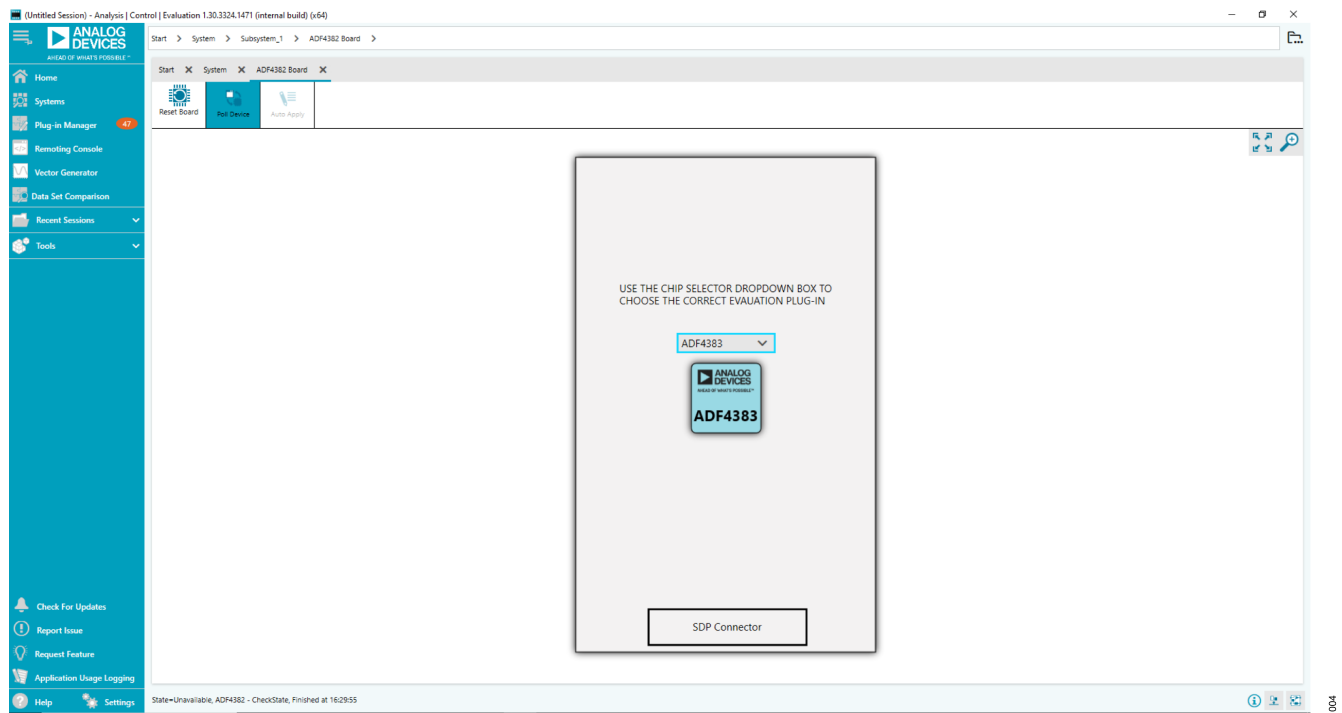

Figure 4. ACE ADF4383 Board Page, Device Selection
2. Double-click the **ADF4383 Board** icon and the tab shown in Figure 4 then appears.